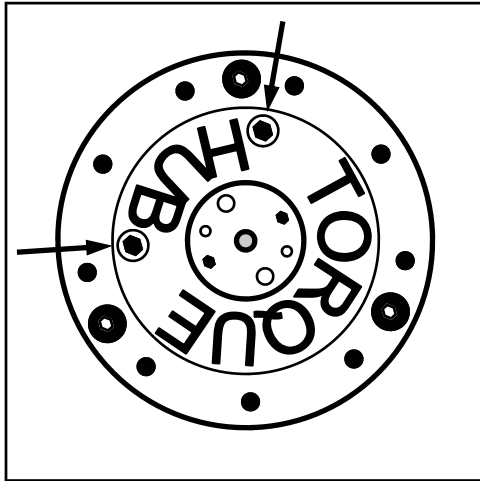

FIG 8.3
**OIL LEVEL** - Each Torque Hub® should maintain an oil level of half full at all times. Less than that would limit lubrication, and over half full could cause overheating and damage. To check oil level, position Torque Hub® so one of the face plugs is positioned at 12 O'clock (fig. 8.3). The other plug will be either at 9 O'clock or 3 O'clock. Remove the lower plug: if no oil comes out, oil level is too low. Check Torque Hub® oil level every 100 hours.